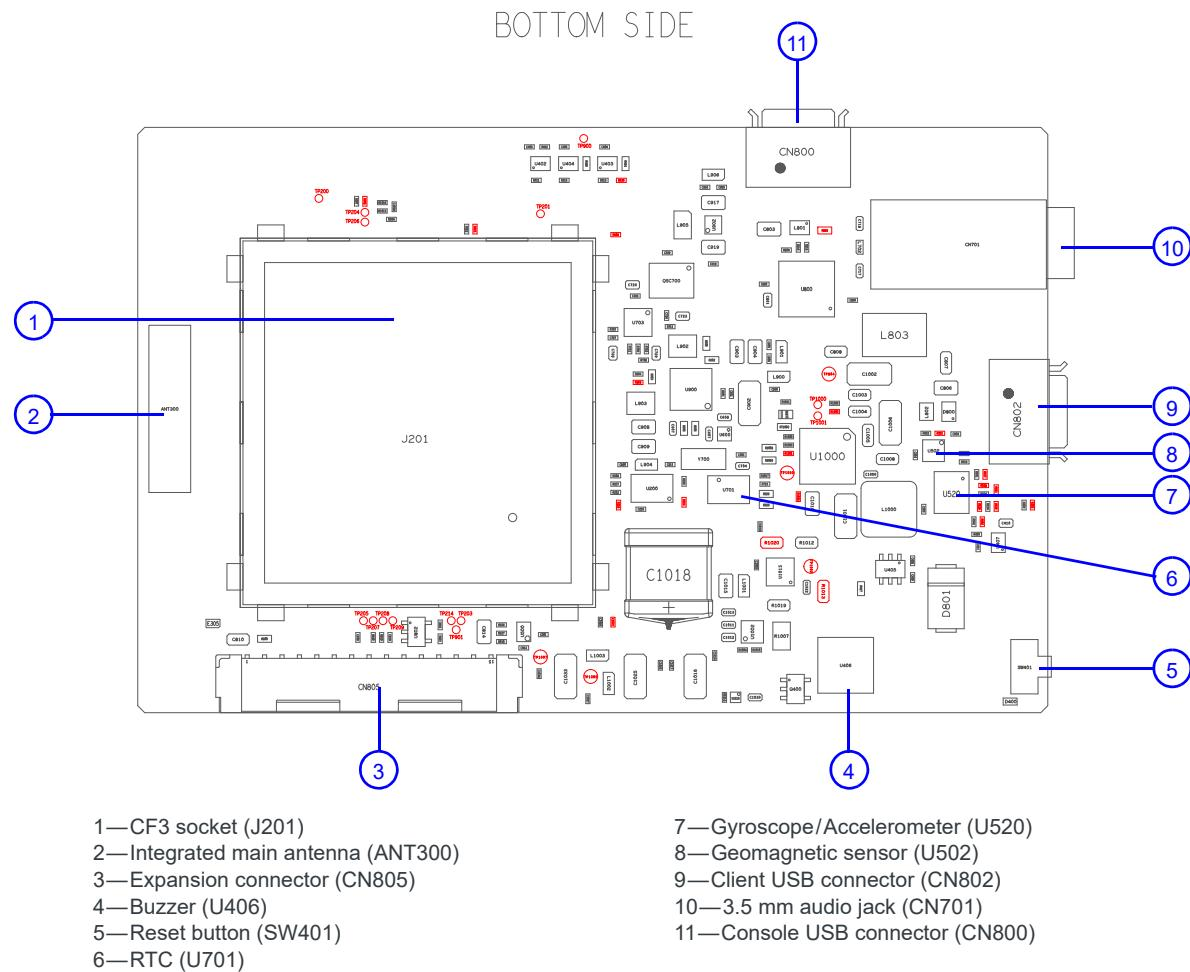

Figure 2-3: mangOH Yellow—Bottom Side Switches/Connectors
Figure 2-1 provides an overview of the mangOH Yellow's hardware components relative to the CF3 module, and Figure 2-2 on page 8 and Figure 2-3 on page 9 show their physical locations.
The mangOH Yellow platform provides several hardware components (as shown in Figure 2-2 on page 8 and Figure 2-3 on page 9), including:
a. Board designators (e.g. CN311, SW401, etc.) are for reference against the published mangOH Yellow schematic. For component locations on the board, see Figure 2-2 on page 8 and Figure 2-3 on page 9.